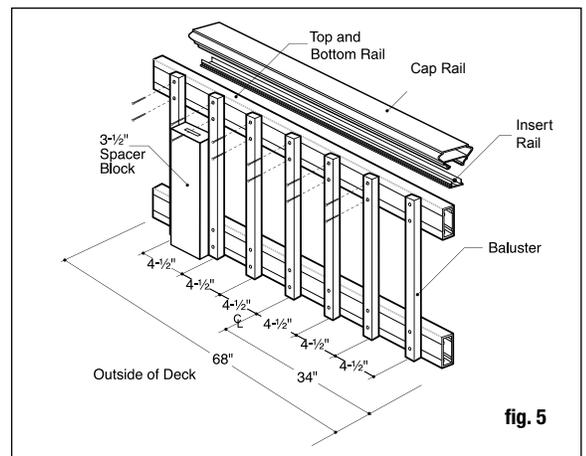

fig. 5
Glass balusters Both top and bottom rails will be installed with the pre-drilled holes facing down to prevent water from collecting in the rail. 7-1/2" on-center and equal spacing for the end spacing. Start by finding the center of the rail. Rail length $\div 2 =$ center of rail. Start the first glass baluster on-center of the center line. Mark every 7-1/2" from the center line to each end. This will leave the end spacing 4" or less on both ends and require 1.5 glass balusters per foot. If installing using connectors, attach connectors to both rails on marked locations. Tip: If face-mounting to rail, use a piece of 2x4 (3-1/2" actual) as a spacer block for the spacing between balusters (fig. 5).
Step 12 Traditional, Baroque, Arc balusters and Face-Mount Glass balusters Start the first baluster on-center of the center of the rail and work out to each end. Using the baluster as a guide, drill 9/64" holes in the rails at each baluster location. Use a 2x4 as a spacer block to space the next baluster. Working toward the ends, drill and attach each baluster with the screws provided (fig. 5).